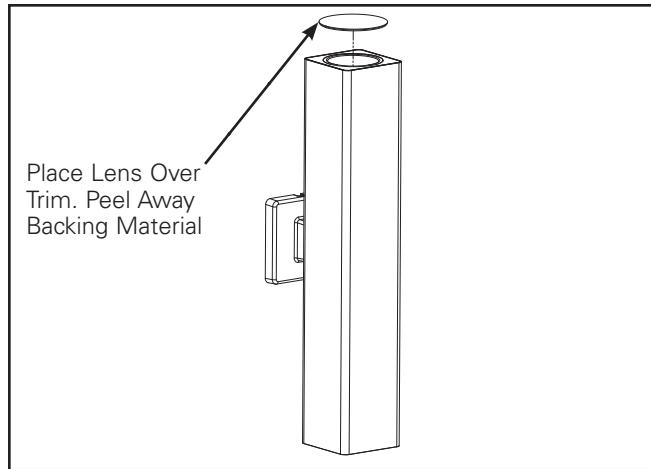

Figure 5.
2. An additional lens is supplied for the top of the cylinder. Peel away gasket backing and apply lens over the top of the trim (see figure 5). For wet/damp location use only.